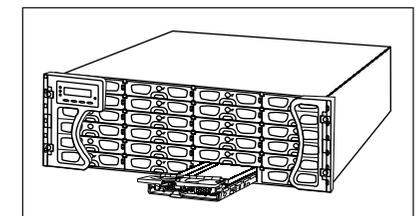

Figure 4: Installing a Drive Tray
- Step 3.** Line the drive tray up with the slot in which you wish to insert it. Make sure that it is resting on the rails inside the enclosure, and then gently slide it in. This should be done smoothly and gently. (See **Figure 4**) Do not force or slam the module into place, doing so will damage the back-end connectors.